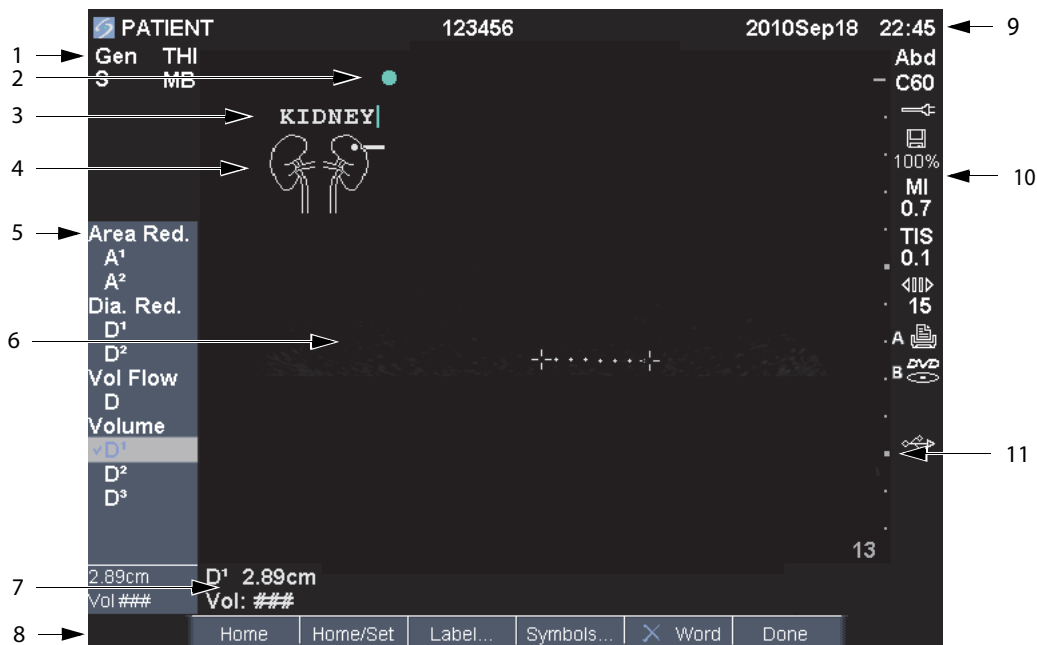

Figure 1 Screen Layout
- ❖ Insert the USB storage device into any USB port on the system or mini-dock. See Figure 1 on page 1.